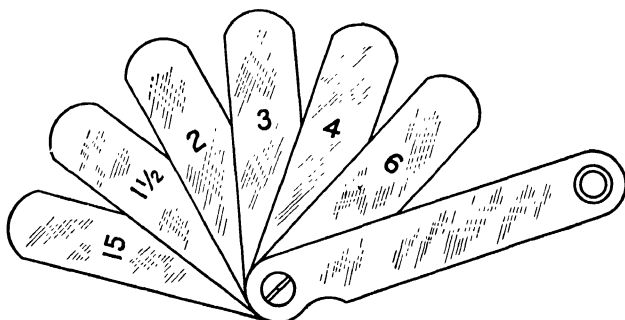

Fig. 33.—Thickness gage.
6. The thickness gage in Fig. 33 has six tempered-steel leaves of the following thicknesses: